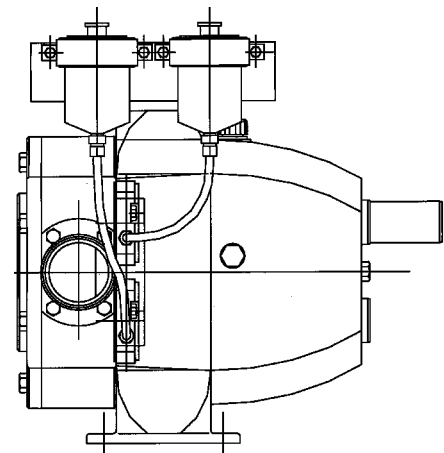

Fig 2
- A pressurized grease system using a commercially available grease canister. This offers the ability to seal against abrasive products such as high sugar products. It must be recognized that a small amount of grease will leak into the product being pumped. It will be necessary therefore to select compatible grease. (See fig 2, below).